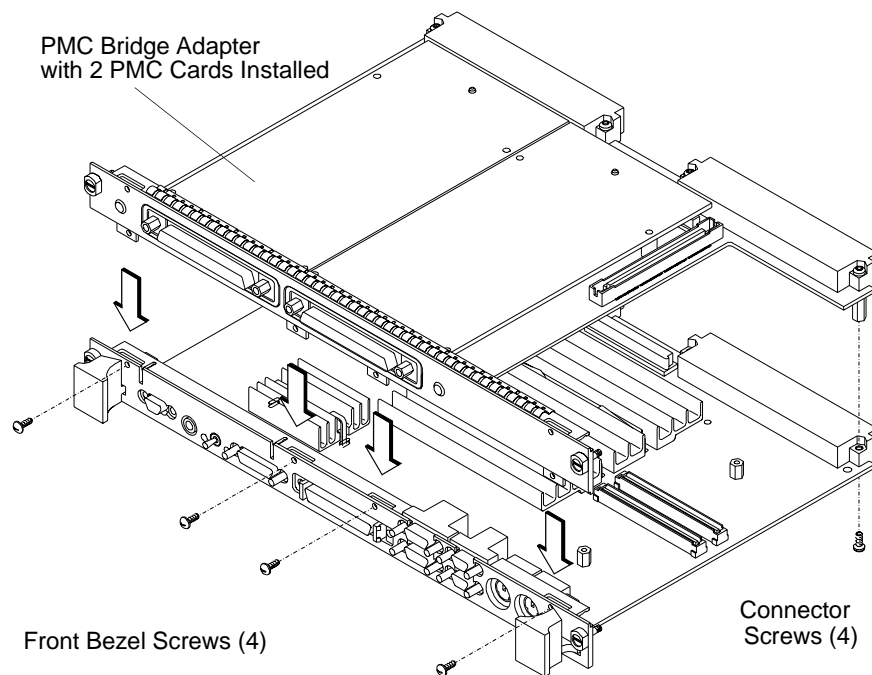

Figure 2-6 **Installing the PMC Bridge Adapter onto the Board Computer**
- 5 Install the PMC bridge adapter onto the board computer as shown in Figure 2-6. There are four screws that secure the front bezel, and four screws that secure the VME connectors.